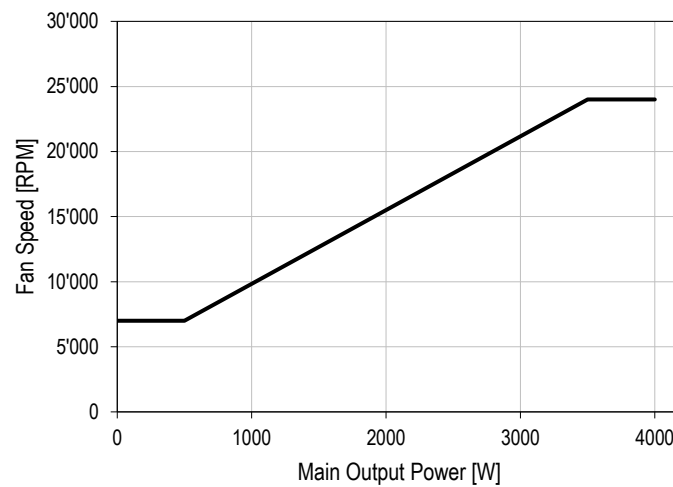

Figure 6. Fan speed versus main output power
- Load depending Fan Speed curve, see *Figure 6*. This curve is in use at nominal conditions.